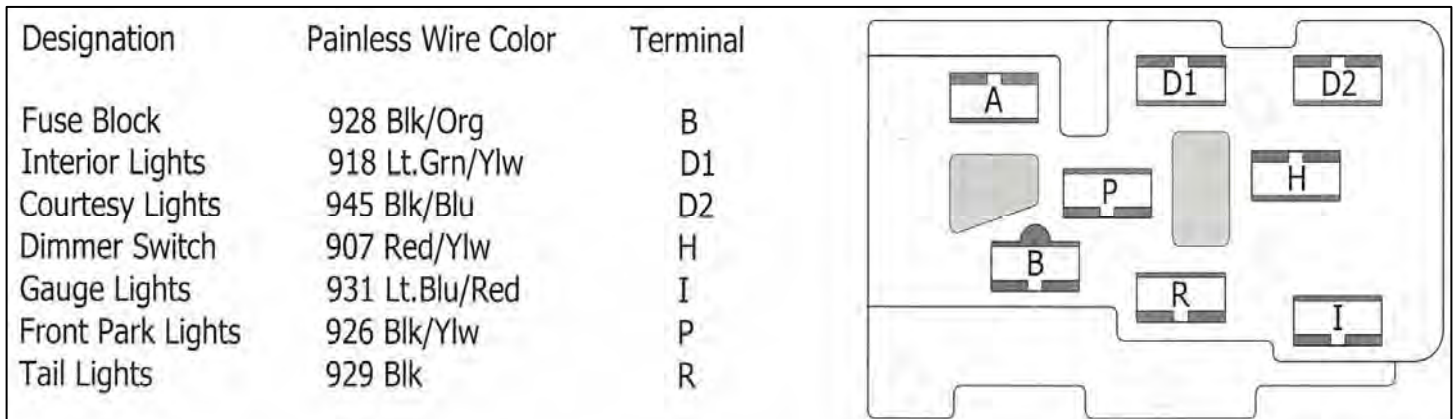

Figure 7-13 Headlight Switch Connector Housing Wiring (Wire Side View)
7.14.6 Connect these wires in the HEADLIGHT/WIPER SWITCH SECTION according to **Figure 7-13 and Table 8.2.**